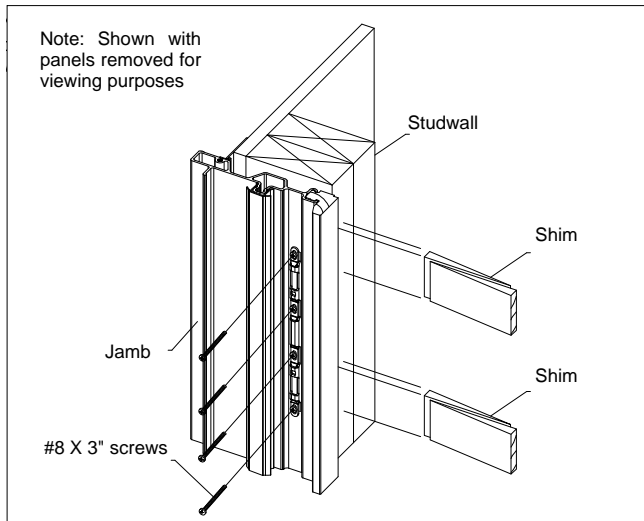

Figure 5
7. Install the strike on all doors, with four #8 x 3" pan head screws (#10 x 1 1/2" for OXO configurations) provided. Position strike to center screws in adjustment slots and tighten. Adjust the strike vertically for proper latch engagement if needed. See figure 5.